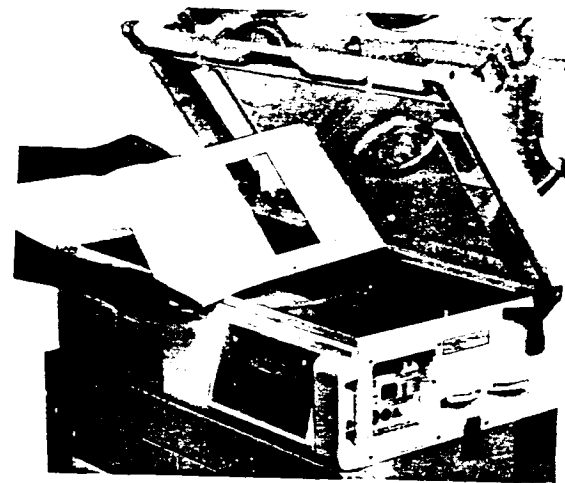

FIGURE 4.7 REMOVAL OF DECK PLATE GROUP
G. REMOVE THE DECK PLATE (GROUP 2). Refer to Figure 4.7 and remove the Deck Plate.